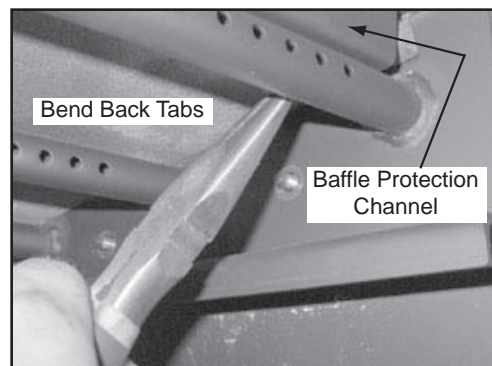

Figure 24.1
2. Remove the baffle protection channel by bending back the tabs using needle nose pliers located at the right and left side of the protection cover. Lift the cover up slightly and pull toward the front and out of the firebox. **Figure 24.1.**